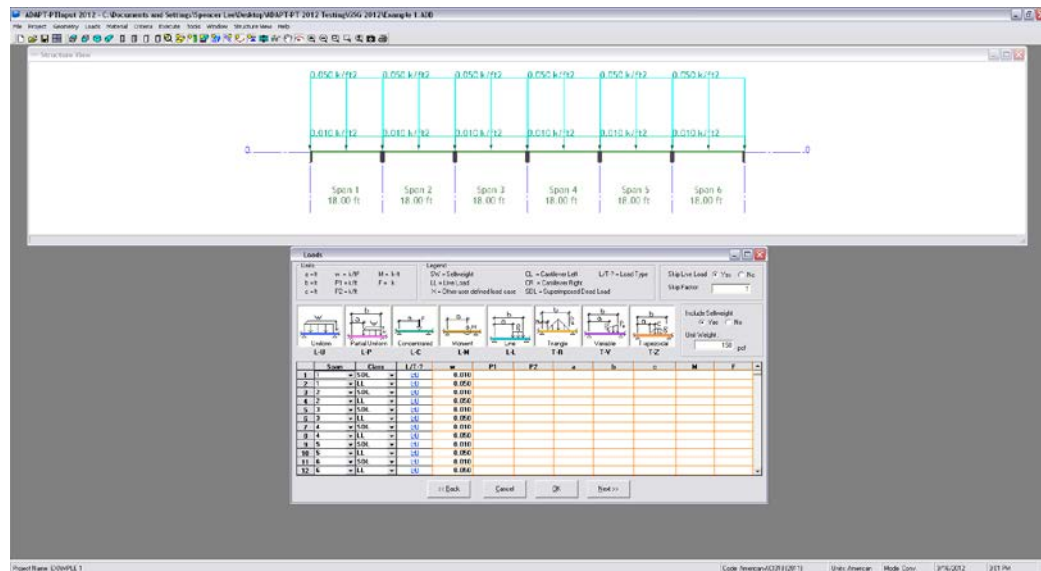
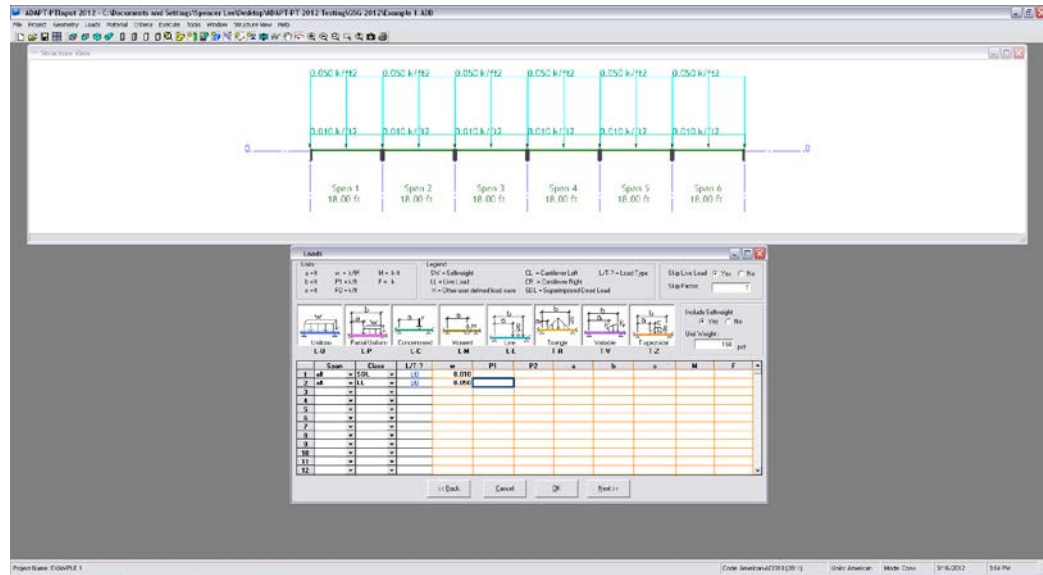

FIGURE 2.1-8
FIGURE 2.1-9
2.1.3.1 Enter the loading information (Fig. 2.1-8)
You can either enter the **SDL** and the **LL** for each span (Figure 2.1-8), or you can type *all* and define SDL and LL once for all spans. The loads then get applied to all spans (Figure 2.1-9).